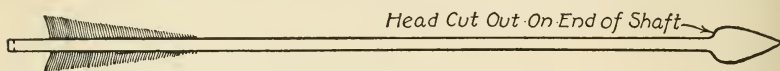

FIG. 244.
**To Prepare Arrow-heads** of stone or bone as the Indians did, for there are other schemes that are simpler to carry out. If the wood is reasonably hard, the heads can be cut on the ends of the shaft, as shown in Fig. 244. For target practice, a wire nail driven into the end of the